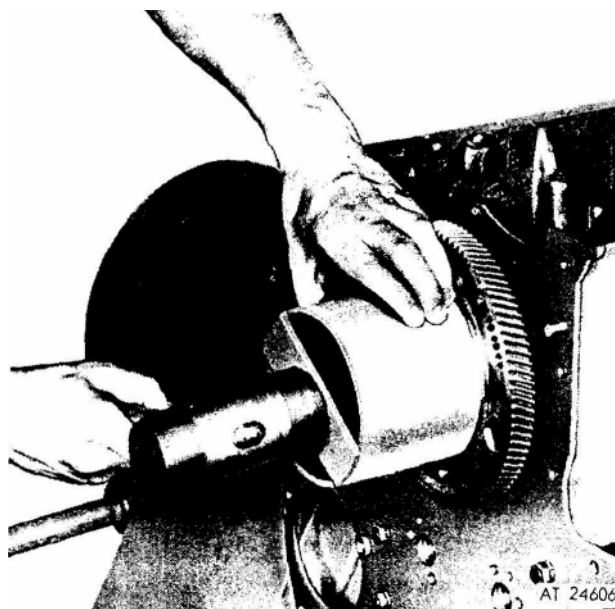

Figure 2. Installing crankshaft timing gear.
3. Place a heavy hammer against the head of the bolt in the front end of the crankshaft. Place installer J 7557 against the rear face of the timing gear, then using a heavy hammer drive the gear up against the shoulder of the crankshaft, as shown in figure 2.